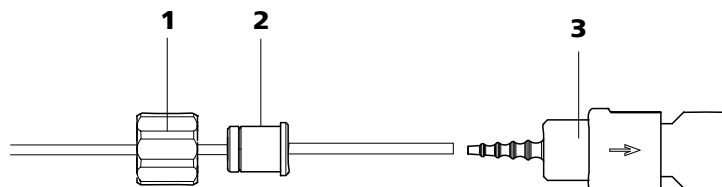

Figure 25 Install pump tubing connection with filter
- **Case A:** a 6.2744.180 pump tubing connection **with filter** (see figure 25, page 44) or